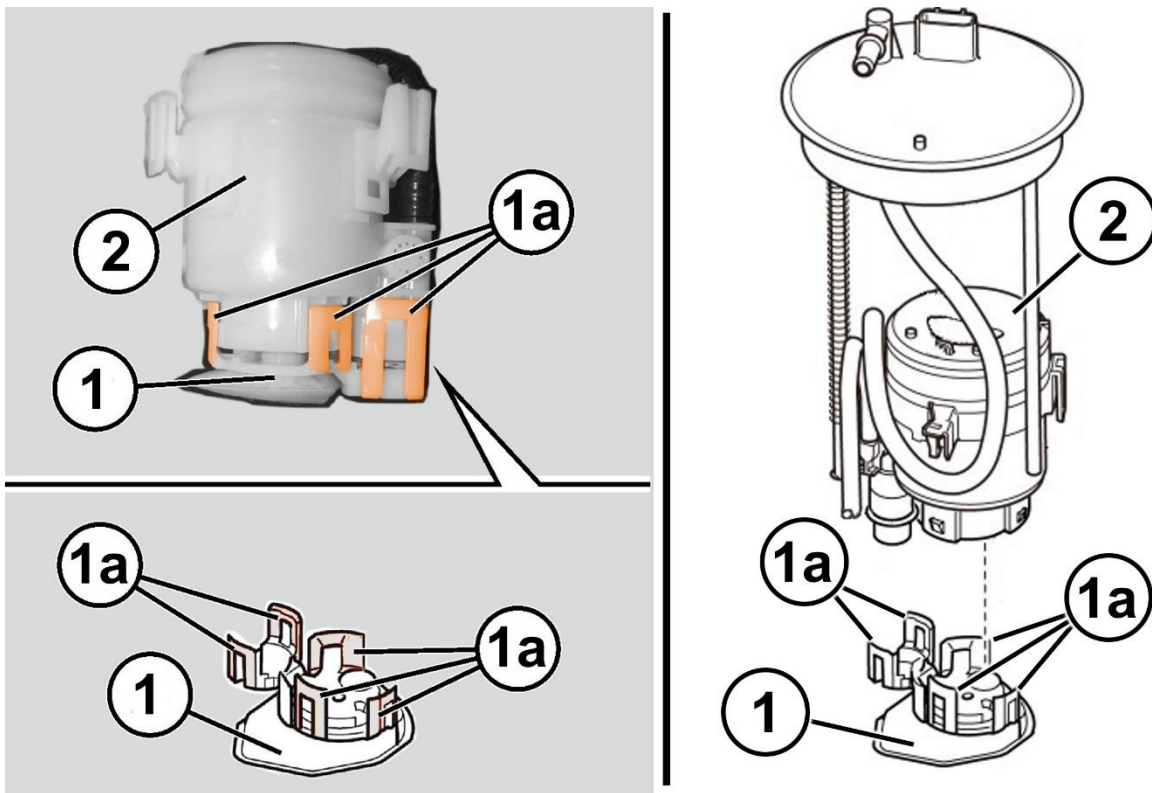

Figure 28 – Fuel Module Filter
- 58. Lift the five tabs (1a) releasing the fuel filter (1) from the fuel delivery module upper housing (2) (Figure 28).
- 59. Separate the fuel filter (1) from the fuel delivery module upper housing (2) (Figure 28).
4. Position the fuel filter (1) to the fuel delivery module upper housing (2) and secure the five retaining clips (Figure 28).